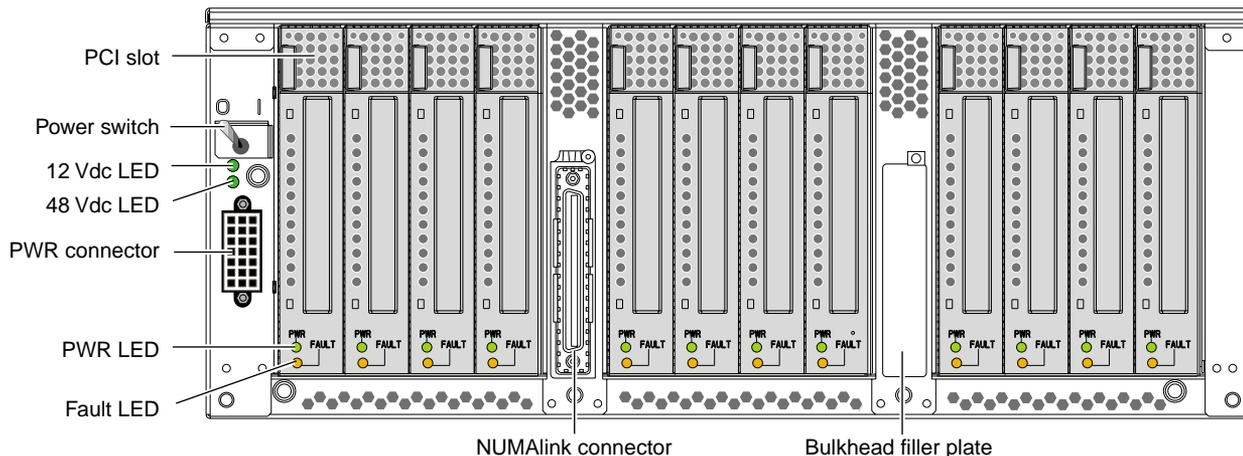
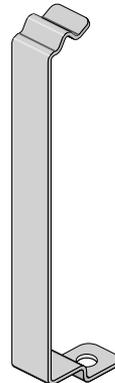

Figure 3-7 Rear View of PCI Expansion Module
Figure 3-13 Bulkhead Filler Plate and Mounting Bracket
The PCI expansion module has the following rear panel items (refer to Figure 3-7):
- One **Bedrock ASIC** that transfers signals between Origin 300 servers and the PCI cards. The Bedrock ASIC is the component that makes the PCI expansion module a peer device to the Origin 300 server. Unlike the Bedrock ASIC of the Origin 300 server, the PCI expansion module uses only two of the Bedrock ASIC interfaces: the I/O interface (II) and the network interface (NI). The processor interfaces (PI_0 and PI_1) and the memory interface (MD) are not used, because the BIC and the PCI expansion module do not contain any processors or memory.
- One **NUMAlink connector** that connects the PCI expansion module to an Origin 300 server or a NUMAlink module. The NUMAlink connector is the left connector on the rear of the PCI expansion module (refer to Figure 3-7 on page 40). The right connector slot is not used; therefore, it contains a bulkhead filler plate to maintain proper airflow through the module (refer to Figure 3-13).
The BIC is secured to the motherboard with the bracket shown in Figure 3-13.
Figure 3-13 shows the bulkhead filler plate and the mounting bracket.